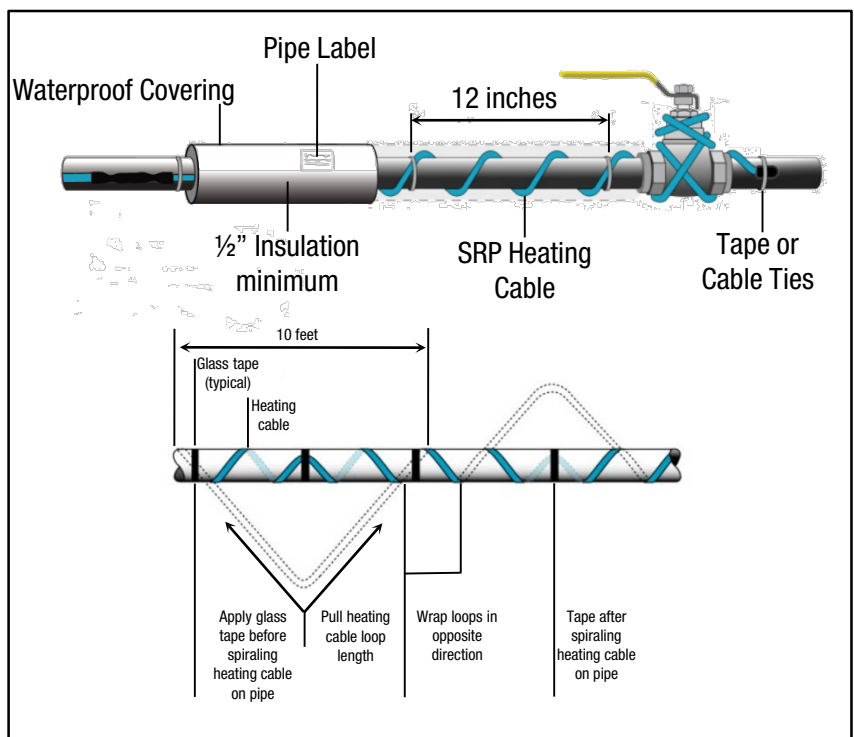

Figure 2: Spiral Tracing
3. For spiral tracing, install the cable as shown in Figure 2.
5. When applying spiral tracing, begin by suspending a loop of cable every 10 feet as shown in Figure 2. To determine the loop length, divide the length of pipe length and multiply by 10.